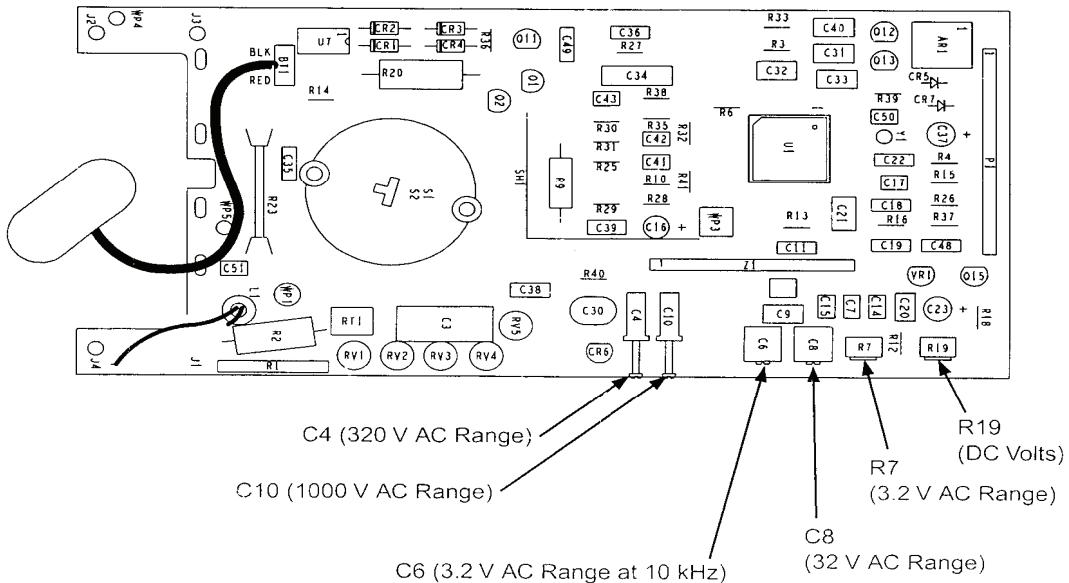

Figure 1. Adjustment locations.
- (1) With same connection as made in step 8 a (1) above, and function switch set to **—V**, press **RANGE** pushbutton for 3.200 V range.
- (2) Set calibrator for a 3 V dc output, push calibrator **OPR/STBY** button to **OPR**.
- (3) Adjust R19 (DC Volts) (fig. 1) until TI indicates 3.000 V dc. (R)
- (4) After adjustment is made set calibrator to **STBY** and repeat performance check 8 a (1) through (11) above.
- (1) Set function switch to $\sim V$.
- (2) Press **RANGE** pushbutton for 3.200 V range.
- (3) Set calibrator for a 3 V, 100 Hz output.
- (4) Adjust R7 (3.2 V AC Range) (fig. 1) for a 3.000 V ac ± 0.001 V ac TI indication. (R)
- (5) Press **RANGE** pushbutton for 320.0 V range.
- (6) Set calibrator for a 300 V, 5 kHz output.
- (7) Adjust C4 (320 V AC Range) (fig. 1) for a 300.0 V ac ± 0.1 V ac TI indication. (R)
- (8) Press **RANGE** pushbutton for 1000 V range.
- (9) Set calibrator for a 1000 V, 5 kHz output.
- (10) Adjust C10 (1000 V AC Range) (fig. 1) for a 1000 V ac ± 1 V ac TI indication. (R)
- (11) Set calibrator to **STBY**.
- (12) Press **RANGE** pushbutton for 32.00 V range.
- (13) Set calibrator for a 30 V, 5 kHz and **OPR**.
- (14) Adjust C8 (32 V AC Range) (fig. 1) for a 30.00 V ac ± 0.01 V ac TI indication. (R)
- (15) Set calibrator for a 3 V, 5 kHz output.
- (16) Press **RANGE** pushbutton for 3.200 V range.
- (17) Adjust C6 (3.2 V AC Range at 10 kHz) (fig. 1) for a 3.000 V ac ± 0.001 V ac TI indication. (R)
- (18) Set calibrator for a 3 V, 100 Hz output. If TI does not indicate between 2.980 and 3.020 V ac, repeat (4) through (17) above as necessary.
- (19) Set calibrator to **STBY** and disconnect connections.